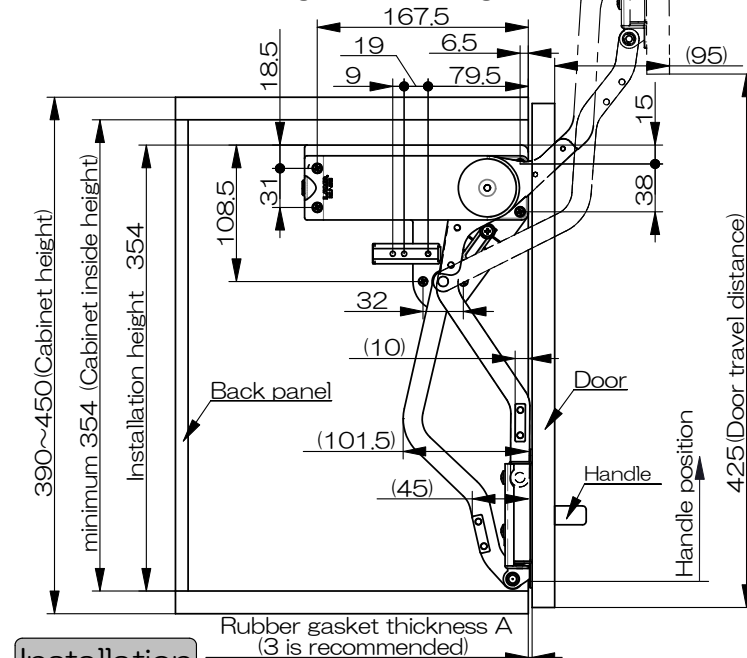

Fig.3. Dimensions
- (1) Install the mounting plates ③ to the back side of the door as per dimensions shown in Fig.3.
- (2) Line up both **a** screws of each mounting plates with the slots of the arms and slide the door down.
- (3) Fasten both **a** screws securely.